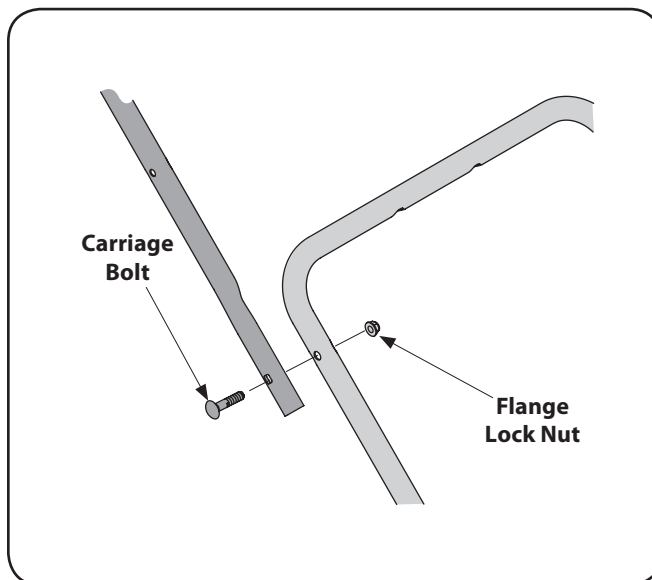

Figure 3-3
2. Secure the upper handle to the lower handle using the carriage bolts and hex flange lock nuts, see Figure 3-3. Make sure that the carriage bolt heads go on the outside of the handle.